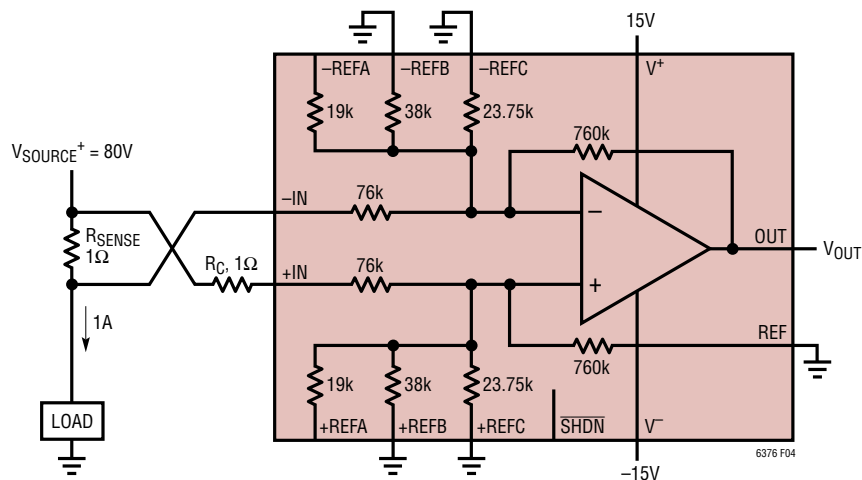

Figure 4. Current Measurement Application
Figure 4 shows the LT6376 in a current measurement application. The error budget for this application is shown in Table 8. The resistor divider ratio is set to 6.3 to divide the 80V input common mode voltage down to 12.7V at the op amp inputs. The 1A current and 1 Ω sense resistor produce an output full-scale (FS) voltage of 10V (in the LT6376) and 1V (in all the other listed parts). Table 8 shows the error sources in parts per million (ppm) of the output full-scale voltage across the temperature range of 25°C to 85°C.